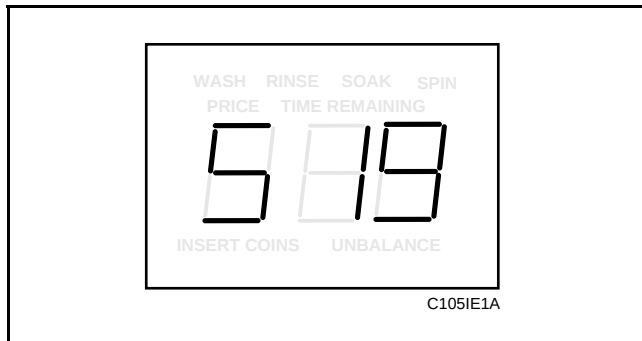

Figure 43
2. While pressing and holding the PERM PRESS keypad with one hand, press the COLD keypad with the other hand. Programmable option number one, “Slg”, will appear in the VFD. See **Figure 43**.